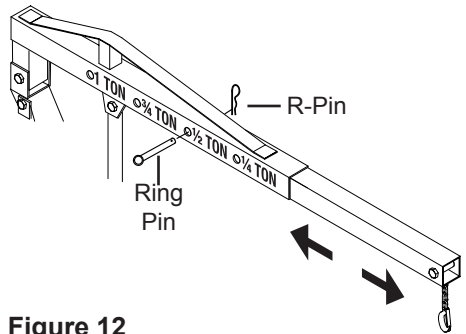

Figure 12
2. Adjust the Boom Extension so the hole furthest from the hook-end aligns with the chosen hole on the Boom. Secure into place by inserting the Bolt through all aligned holes and tightening in place with the Washer and Nut. See Figure 12 above.